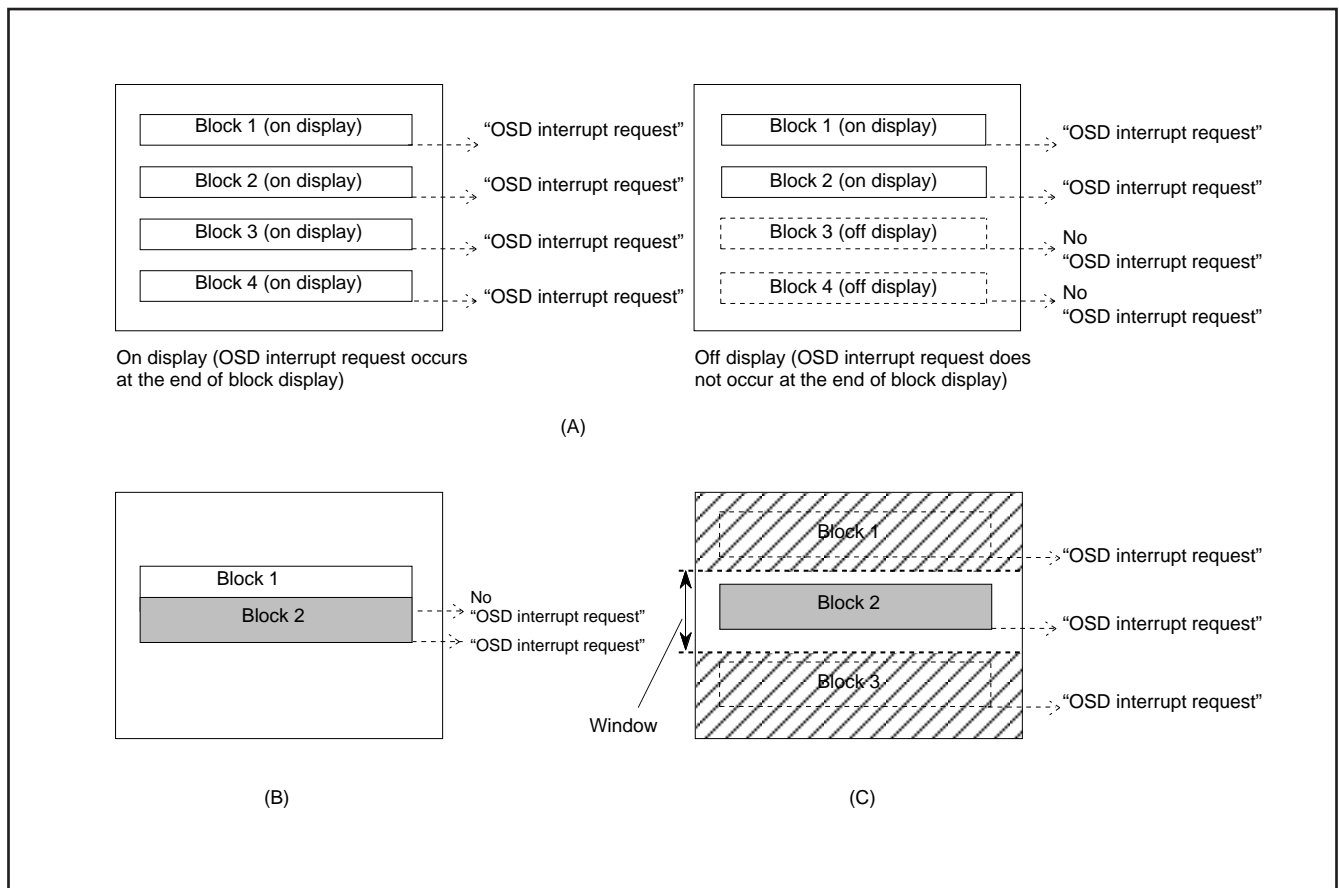

Fig. 12.11.36 Note on Occurrence of OSD Interrupt
- Notes 1:** An OSD interrupt does not occur at the end of display when the block is not displayed. In other words, if a block is set to off display by the display control bit of the block control register *i* (addresses 00D016 to 00DF16), an OSD interrupt request does not occur (refer to Figure 12.11.36 (A)).
- 2:** When another block display appears while one block is displayed, an OSD interrupt request occurs only once at the end of the another block display (refer to Figure 12.11.36 (B)).
- 3:** On the screen setting window, an OSD interrupt occurs even at the end of the CC mode block (off display) out of window (refer to Figure 12.11.36 (C)).